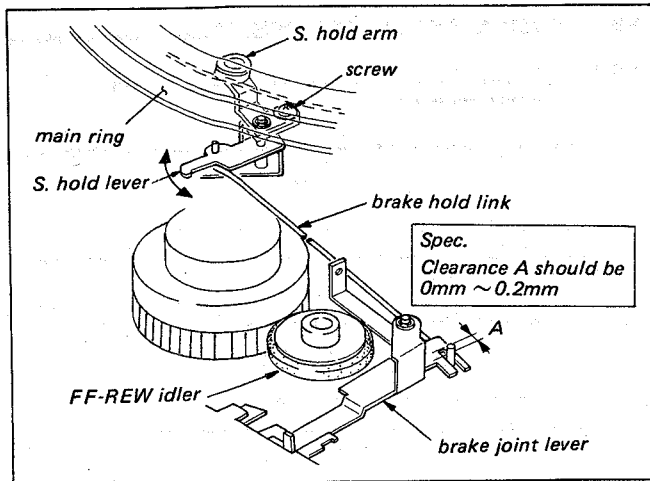

Fig. 4-15. S. Hold lever position adj.
- Check to see that the clearance A is 0 ~ 0.2 mm as shown in Fig. 4-15.
If the required clearance cannot be observed, loosen the screw shown in Fig. 4-15 and adjust the S.hold lever in the directions shown by the arrow in Fig. 4-15 while pushing the S.hold arm towards the main ring.